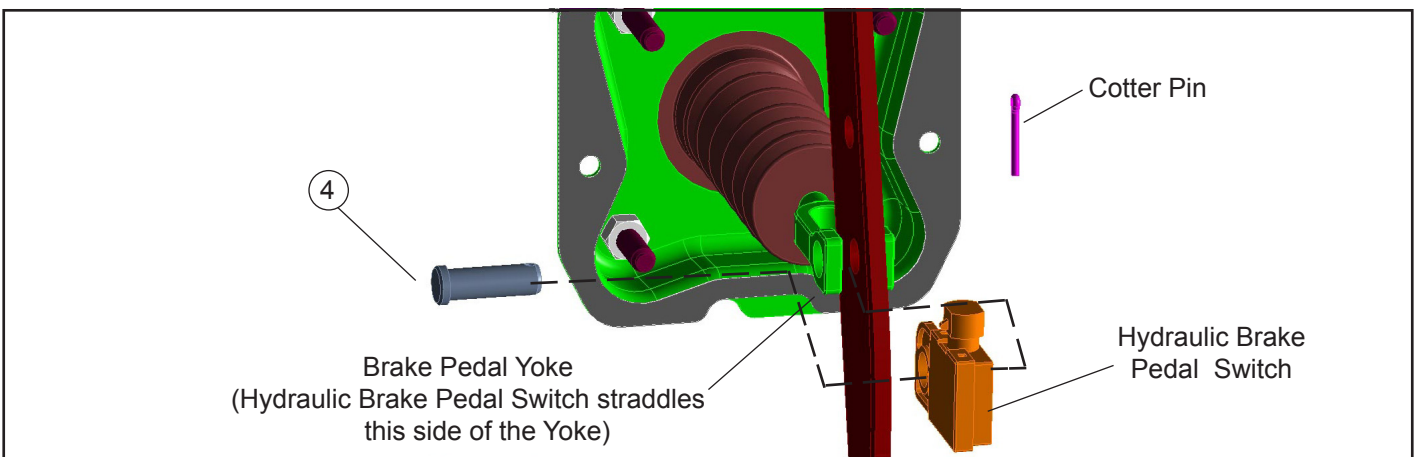

Figure 6 – Installation of the Hydraulic Brake Switch
1. Remove the cotter pin or Rue™ ring (5). Remove the yoke pin (4) that secures the yoke to the brake pedal (3). For air-braked vehicles, remove the wave washer (6).
2. Hydraulic vehicles with the Hydromax® brake system contain a brake switch that the yoke pin (4) passes through. The electrical connector does not need to be disconnected, but the wire harness clip needs to be removed from the top of the brake pedal (3). Refer to Figure 6.
3. Remove the 3/8" flange screw (8) from the left end of the clutch shaft.
5. Remove the brake pedal (3) from the pedestal.